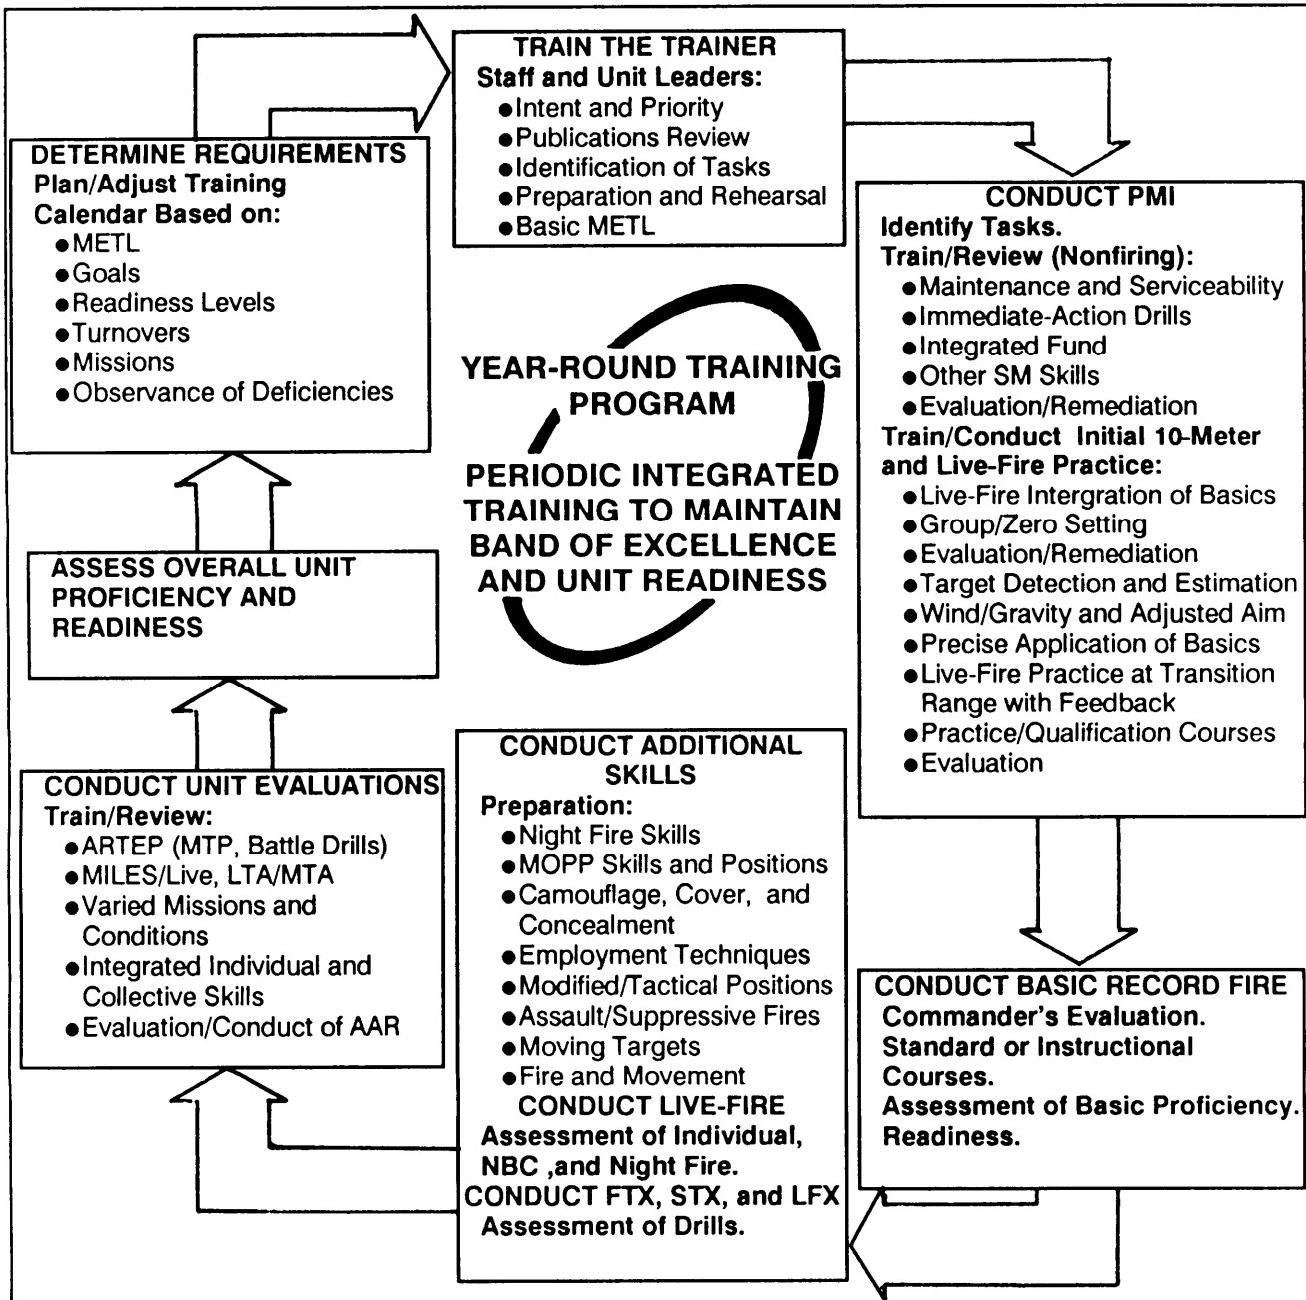

Figure 1-1. Unit marksmanship sustainment strategy.
- c. The training strategy for caliber .50 MG marksmanship begins in selected resident training and continues in the unit. An example of this overall process is illustrated in Figure 1-1 and provides a concept of the
j. Unit training programs maintain the soldiers' proficiency level. The ultimate goal of a unit marksmanship program is to maintain well-trained gunners so a unit can survive and win on the battlefield. The trainer must realize that qualification is not an end, but a step toward reaching this combat requirement. (See Figure 1-1.)
(1) To reach this goal, the gunner must be able to position and use his weapon under the following combat conditions:
(2) The unit's program must provide fundamental training to sustain and improve the skills and proficiency the soldier has attained during his basic marksmanship training. Once basic skills have been mastered, these must be improved by conducting new or advanced individual and collective training. The program must develop collective firing skills by incorporating marksmanship into tactical exercises. This training must maintain the soldier's confidence in the weapon and his skills. A soldier's